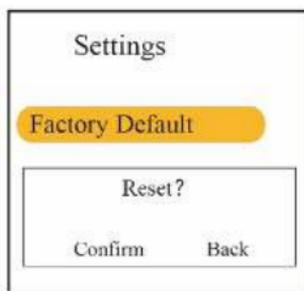

Figure 4.10J Default setting
- **Version:** For viewing version number of the software, as shown in figure 4.10J.